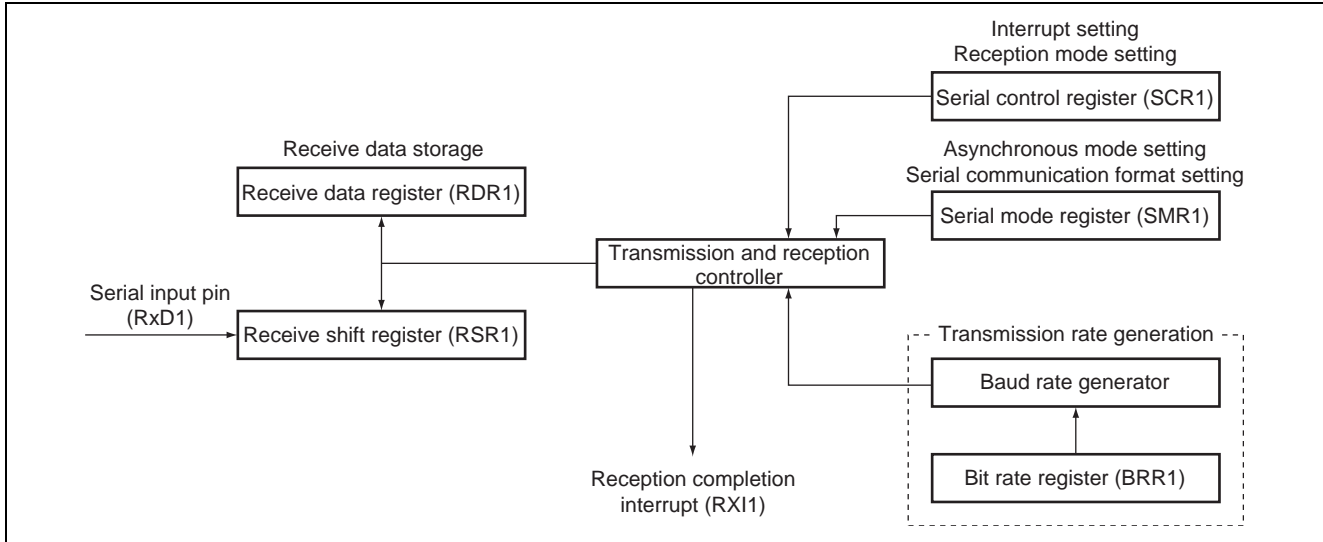

Figure 3 Block Diagram of SCI Reception
B. The reception block diagram of SCI used by this sample task is shown in figure 3.